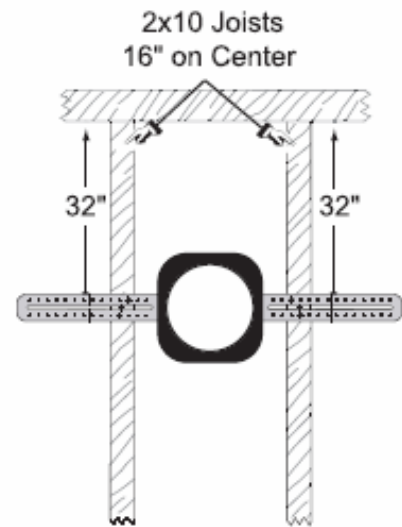

Figure 5
- After the speaker bracket is properly positioned install some additional screws or nails to lock down its location. Screws might be preferred if movement or removal could be required at a later date. (See Figure 5)